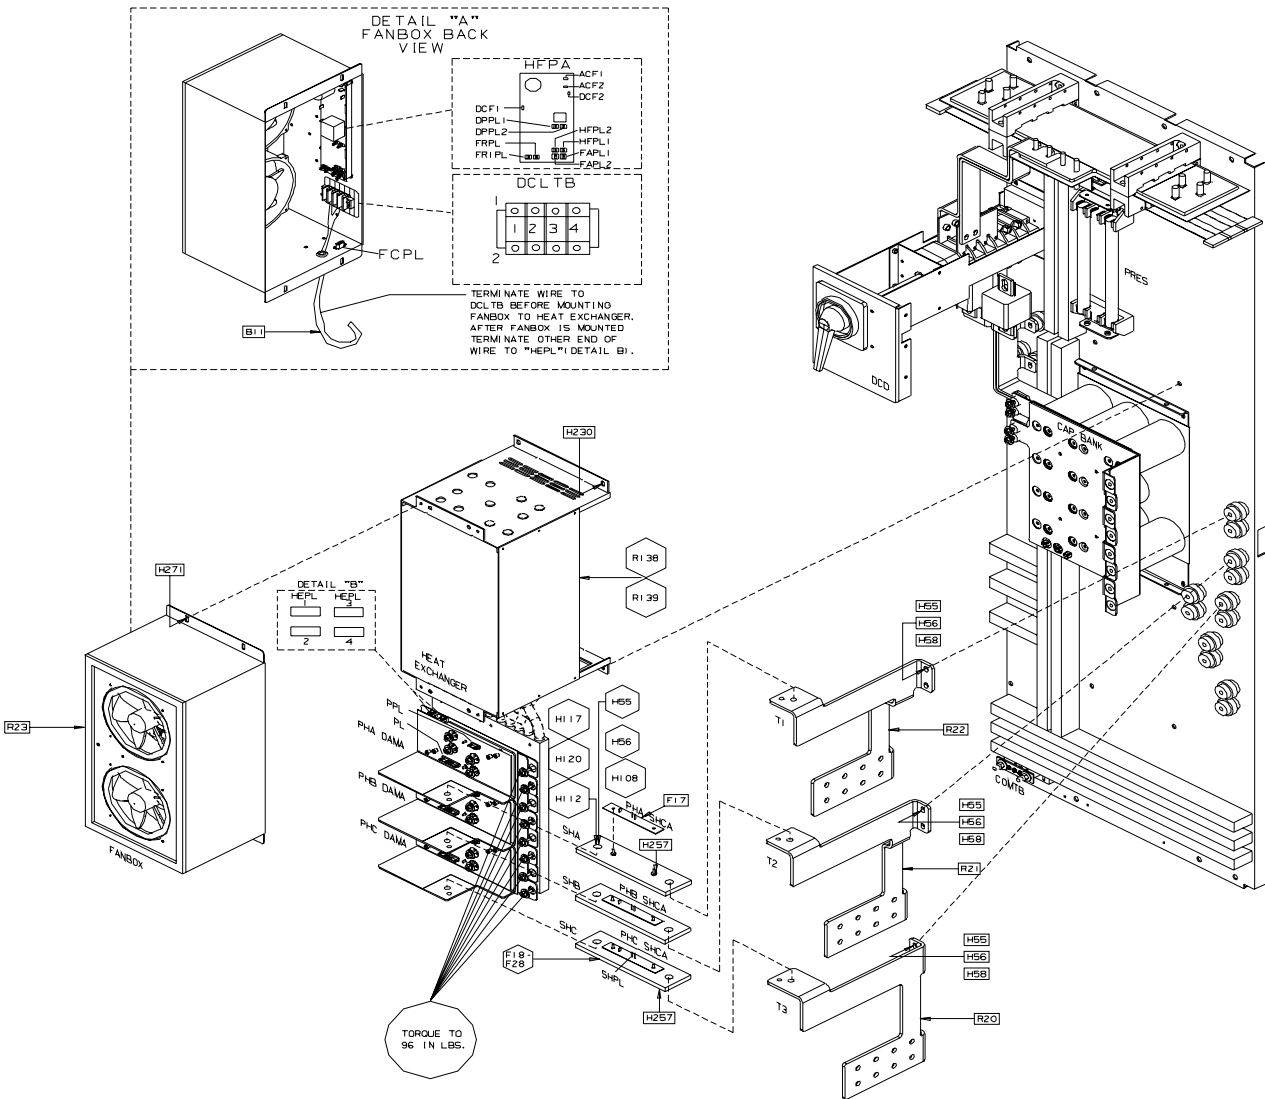

Figure 7-3. 620 Frame Panel Assembly
5. Remove the shunt from the shunt bus and place it aside (refer to Figure 7-3).